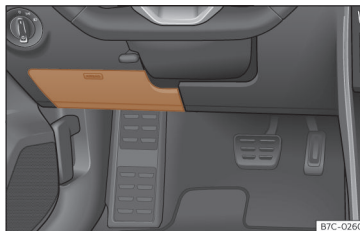

Fig. 45 Left hand drive vehicles: fuse box cover under the driver's side dashboard
- *Open*: fold the cover down >>> **Fig. 45**.